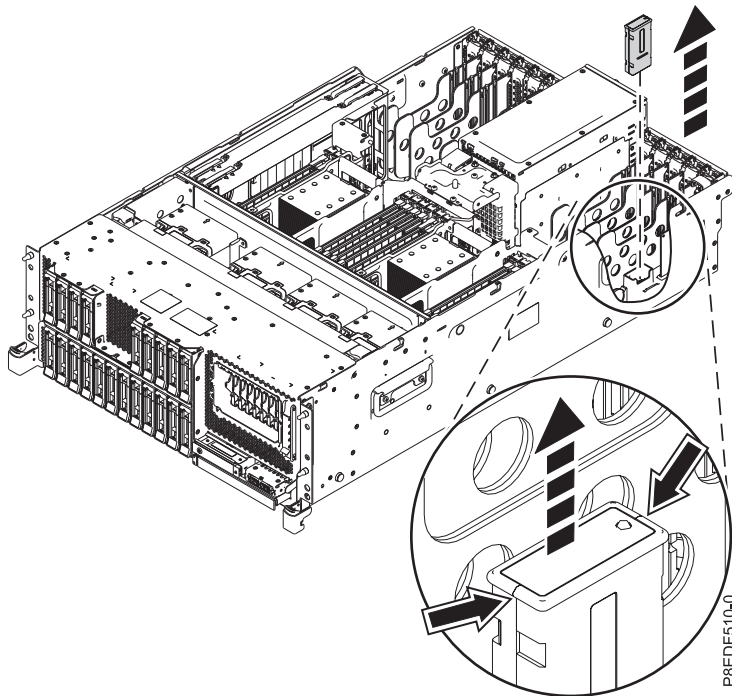

Figure 2. Removing the VPD card
2. Remove the VPD card. Grasp the VPD card by the plastic housing and pull it out of its slot in location P1-C13 on the system backplane as shown in Figure 2.